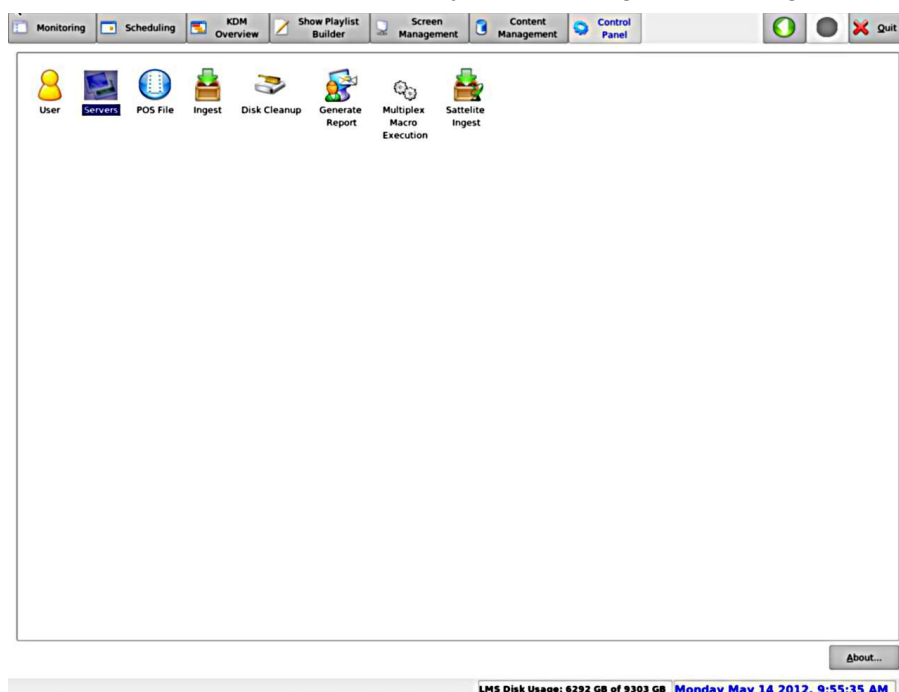

Figure 87: Control Panel Tab
- Clicking on the Control Panel tab will display the following window (Figure 87):
- To specify the POS file location, click on the POS File icon (Figure 87).